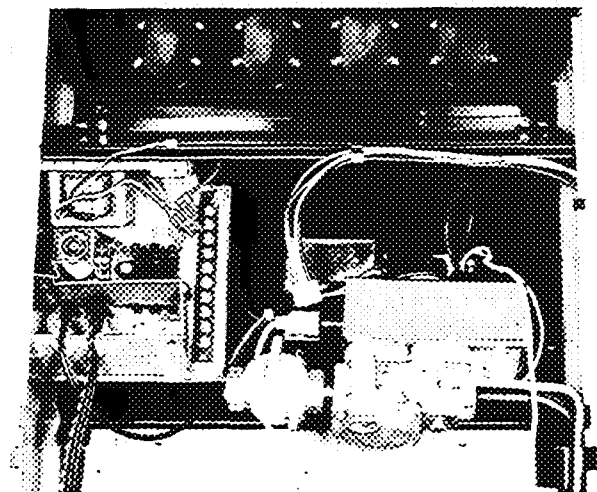

Fig. 3 – Control Section, Wires Disconnected
Step 2 – Install Printed-Circuit Adapter (Fig. 3 and 4).
- Disconnect wires from terminals marked SEC1 and SEC2. If 2 wires are connected to SEC1 thru a doubler terminal, disconnect doubler from SEC1 terminal. Keep wires connected to doubler. See Fig. 3.